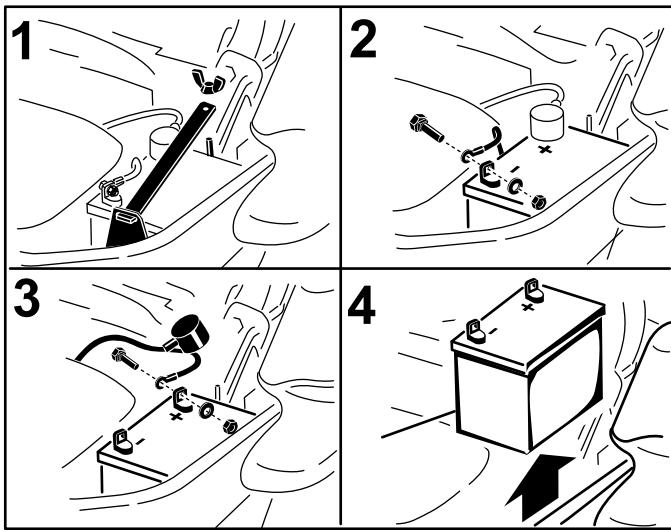

Figure 58
- First disconnect the negative battery cable (black) from the negative (-)(black) battery terminal (Figure 58).
- Slide the red terminal boot off the positive (red) battery terminal and remove the positive (+)(red) battery cable (Figure 58).
- Remove the wing nut securing the battery clamp (Figure 58).
- Remove the clamp (Figure 58).
- Position battery in the tray with the terminal posts opposite from the hydraulic tank (Figure 58).
- Secure the cables with 2 bolts, 2 washers, and 2 locknuts (Figure 58).
- Install the clamp and secure it with the wing nut (Figure 58).